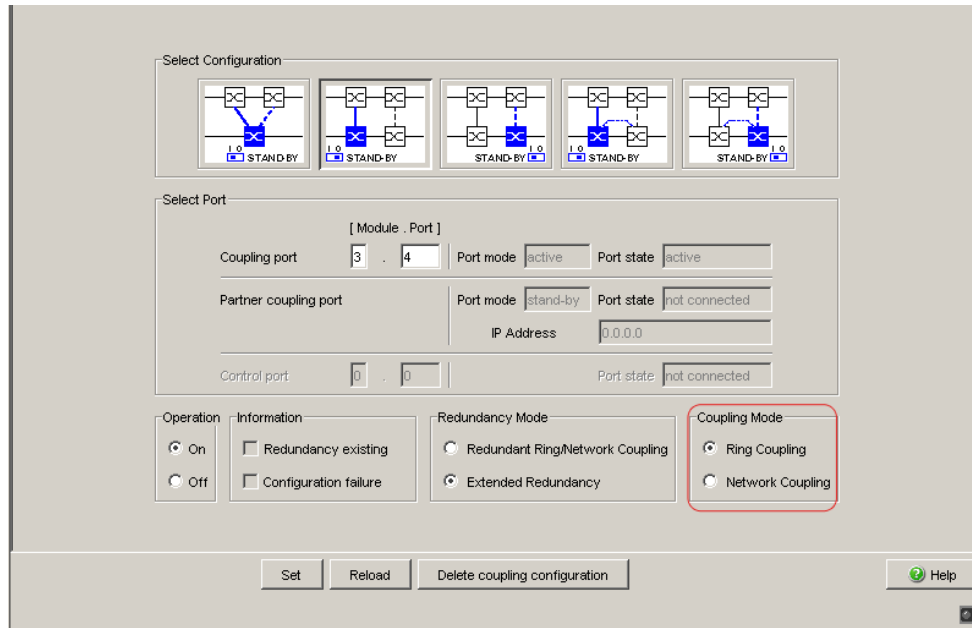

Figure 35: Selecting the coupling mode
- ☐ In the “Coupling Mode” frame, select (see fig. 35)